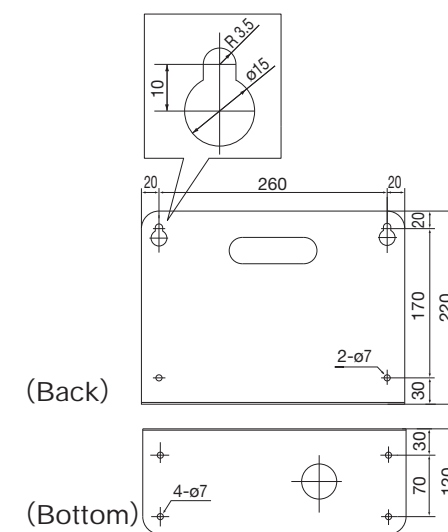

Fig. 9
- To carry Air Line Kit, mount four rubber paddings and place it on a flat surface. When mounting on the wall with screws in Holes for Wall Attachment at the back of Air Line Kit, put washers between the back and the wall. (See Fig. 9)